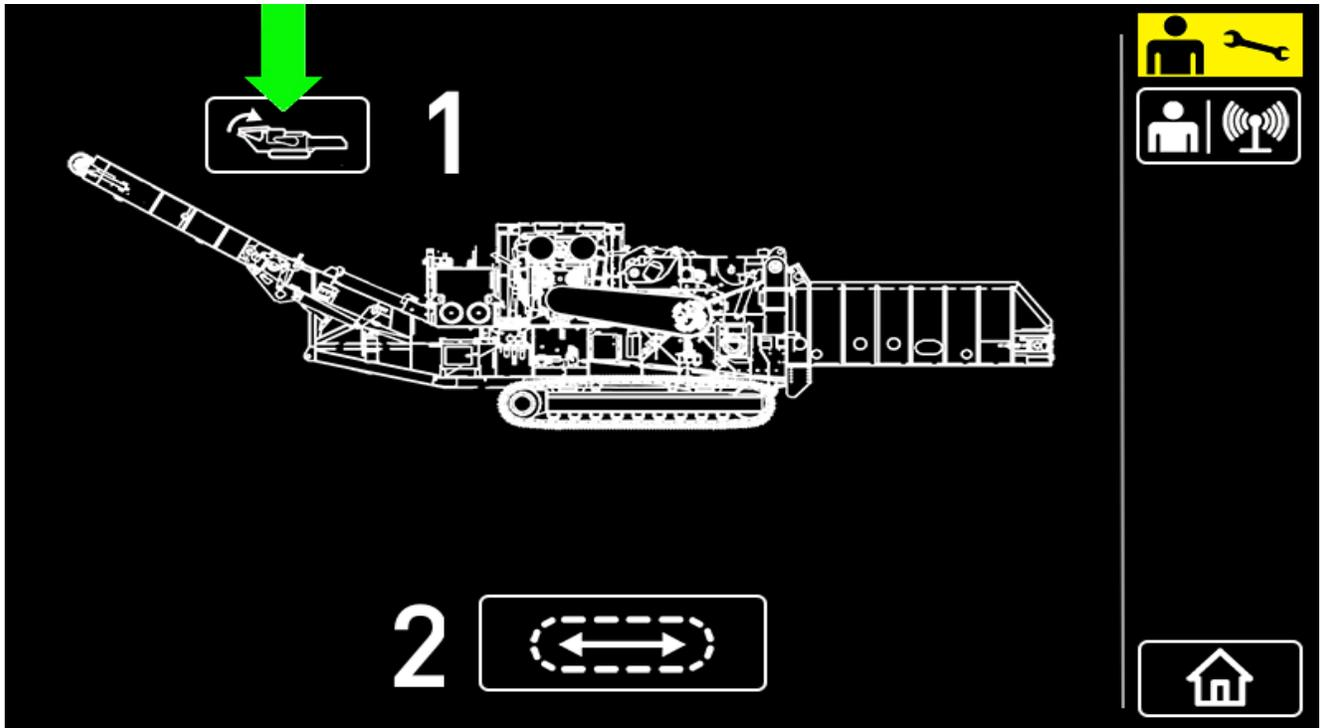

Figure 5.2 - Fold Discharge Conveyor
3. Once in the TRANSPORT MENU, press the FOLD DISCHARGE CONVEYOR button (Figure 5.2). Once the discharge is folded, the TRACK MODE button will be highlighted in green. Ensure the Discharge Conveyor is fully in the folded position before enabling TRACK MODE.